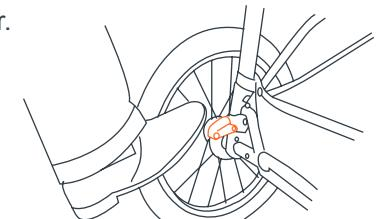

Fig. 11
- 11)** • To engage brakes, apply light downward pressure to the brake lever located on each rear wheel. The stroller may require slight forward or rearward movement in order to line up the teeth on the brake with each wheel brake cluster (Fig. 11).